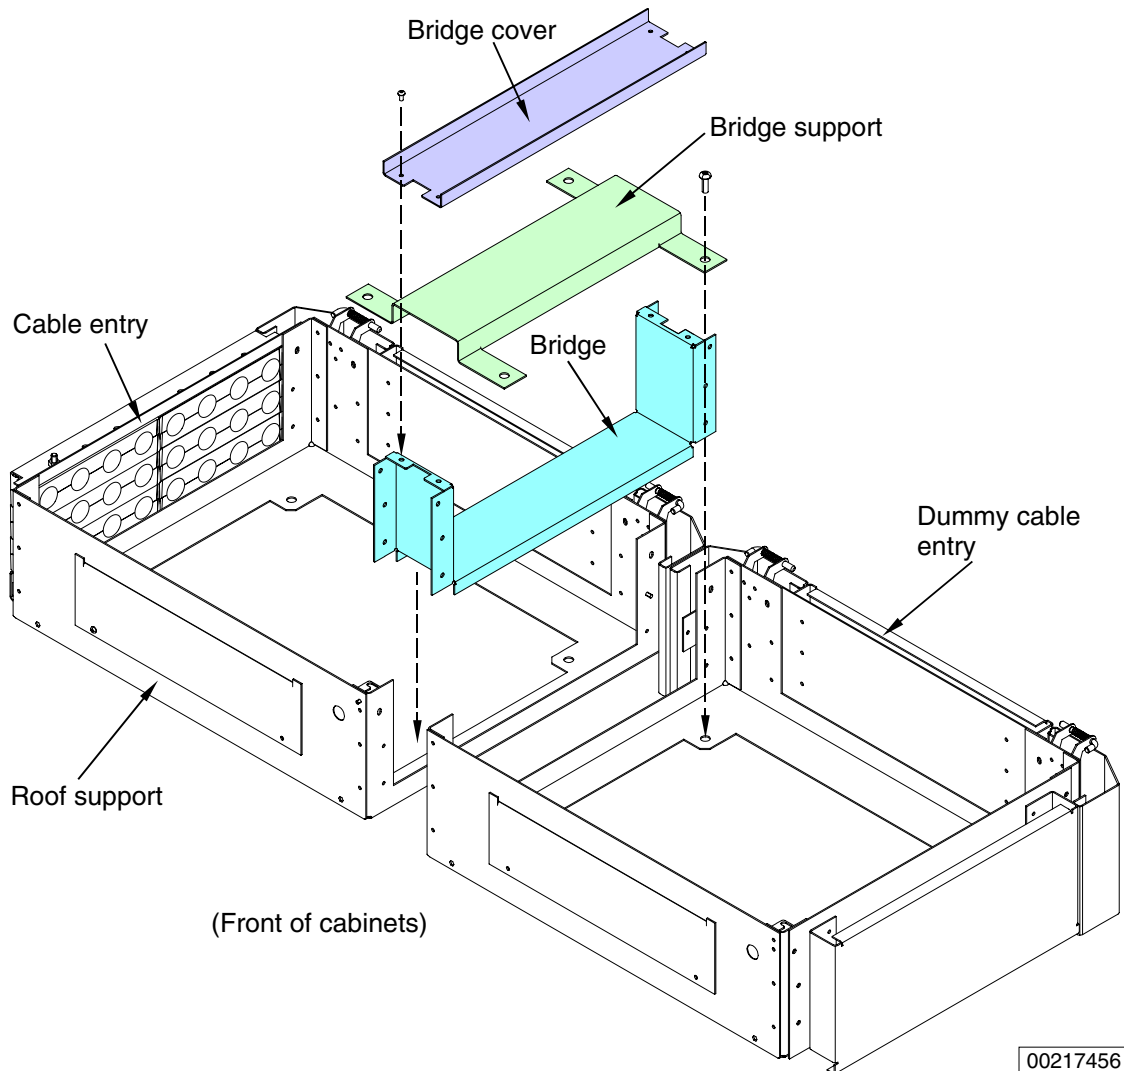

Figure 8. Installing the bridge kit
3. Remove adjacent dummy cable entry panels from both roof support assemblies (M5 screws, three on each panel end). See Figure 8.